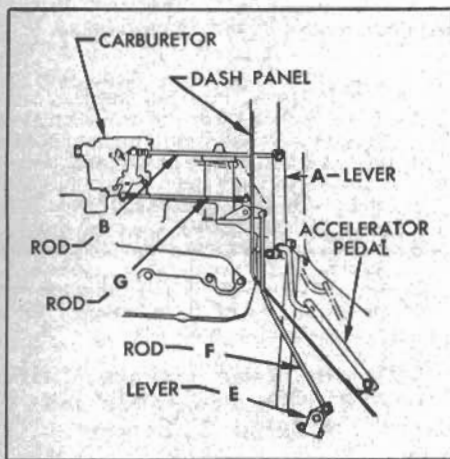

Fig. 22 Adjusting V8 throttle linkage. 1955 Powerglide
2. Disconnect rod "F" from throttle lever "E", Fig. 22.